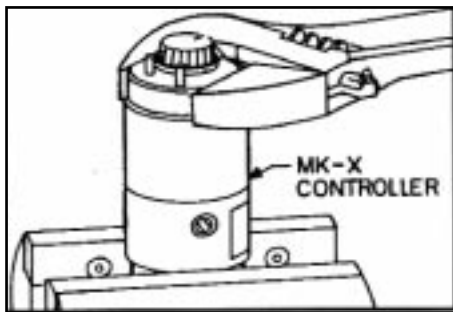

Figure 1
1. Clamp the lower end of the controller body in a bench vise. (Fig. 1)